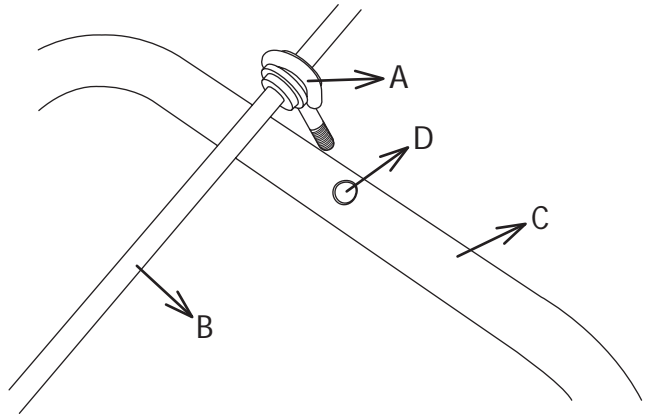

Figure 16
5. Remove the washer and nut from the eye bolt with rubber grommet found on the upper chute crank. Position the chute crank so that the eye bolt with rubber grommet inserts into the center hole of the middle frame. Secure with washer and nut (Figs. 16 and 17).